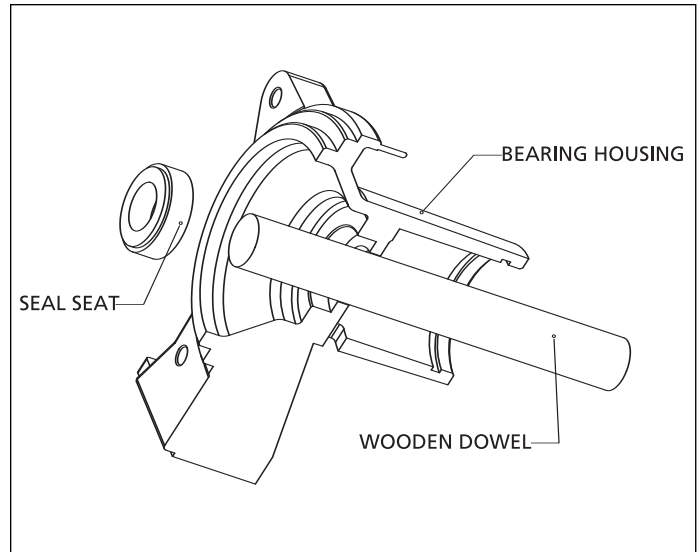

Figure 5 - Seal Seat Removal
6. Use a wooden dowel to push out the seal seat (part of Ref. No. 5) from the body (Ref. No. 4) (See figure 5).